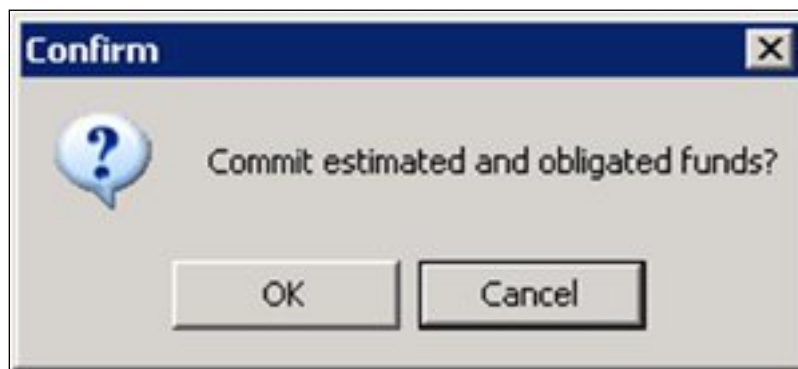

Figure 5-10: Commit Funds Confirmation Message
2. Click the COMMIT RECALCS button. The system displays a message confirming “Commit estimated and obligated funds?” (Figure 5-10).